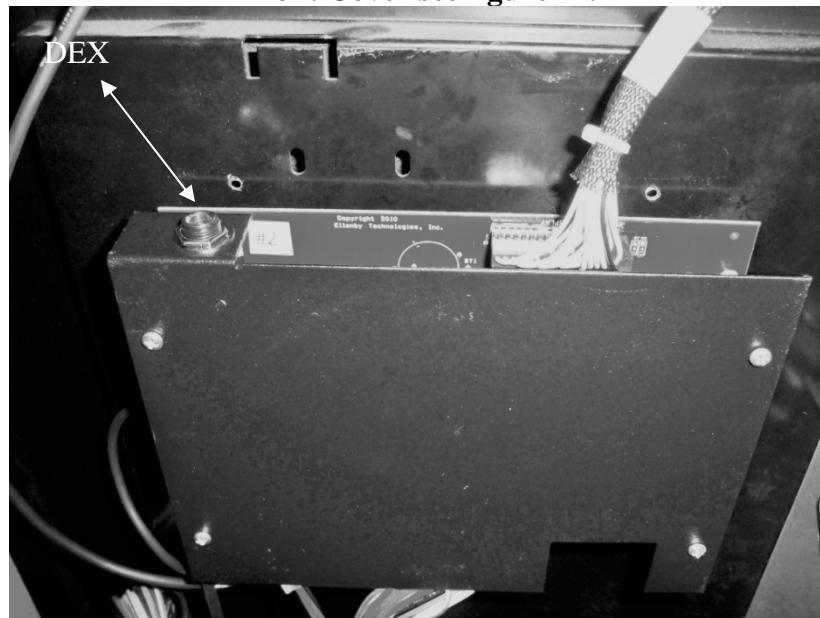

Figure 27
20. Secure the Front Cover over the VMC control board using the 4 screws provided (6-32x3/8") each screws into the 4 standoff's installed earlier. **Do not over tighten the screws this may damage the threads of the standoff's. Also make sure the DEX receptacle is facing up when installing the Front Cover see figure 27.**